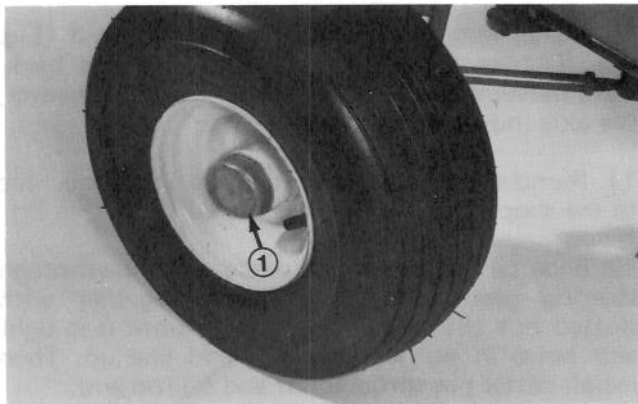

Figure 37
5. Install dust cap on end of the wheel spindle (Fig. 37).